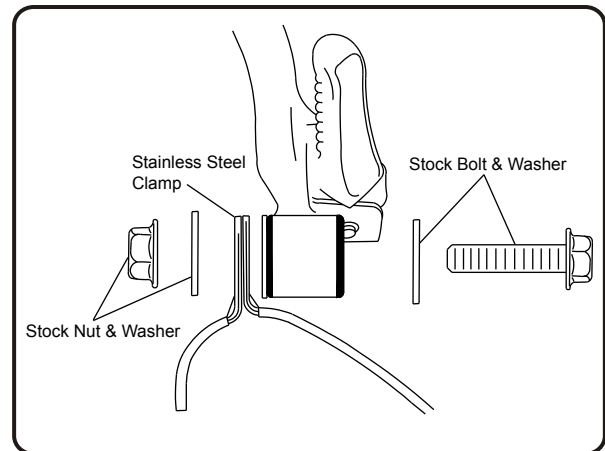

Fig. 1
- 3 Apply muffler clamp heat insulator to inside of muffler clamp and slide clamp onto muffler. (Note orientation of clamp in Fig. 1)
- 4 Mount clamp to stock muffler bracket using stock bolt, washers and supplied nut. (See Fig. 1) Hand tighten bolt only at this point.